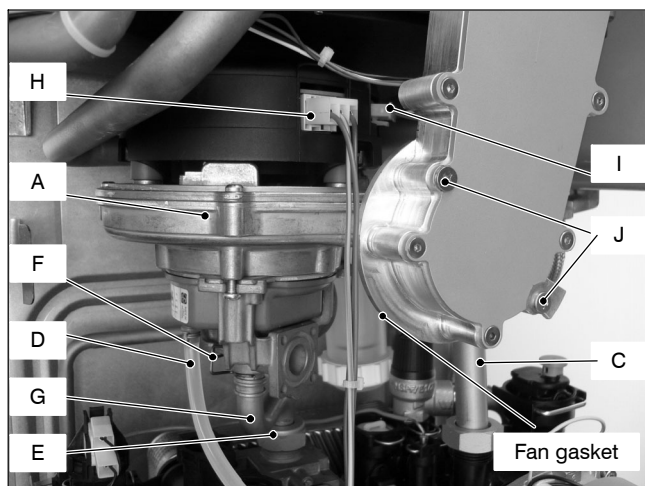

Fig. 17.2
- 3 Disconnect the air manifold from pipe *C* by opening the strip (Fig. 17.2).
Before reassembling ensure the fan gasket (Fig. 17.2) is correctly mounted.